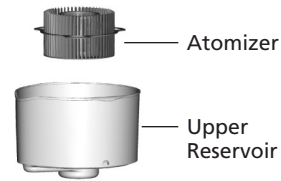

Figure 13
5. Remove the Atomizer and the Upper Reservoir. See Figure 13.